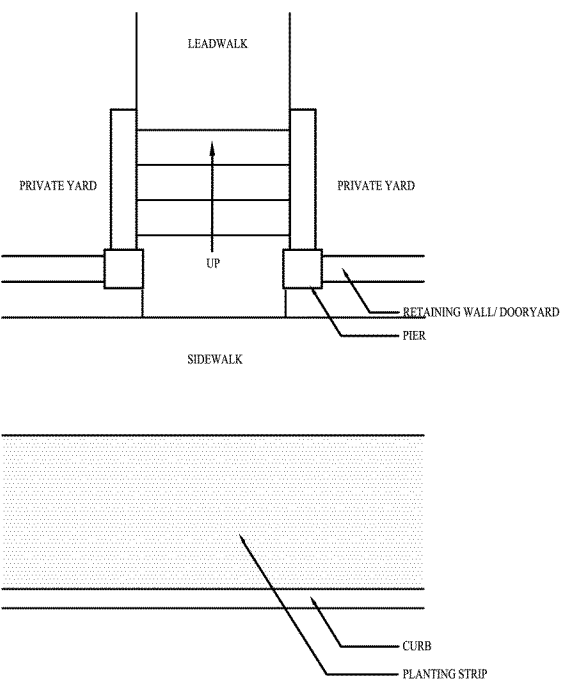

Figure 30
- » Brick or stone piers may mark the pedestrian entrance to a private yard. See Figure 30.
- » Lot leadwalks shall connect with street sidewalks and/or driveways. See Figure 30.
- » Brick or stone piers and/or garden walls shall be set 12" minimum and 24" maximum off street sidewalks. See Figure 30.